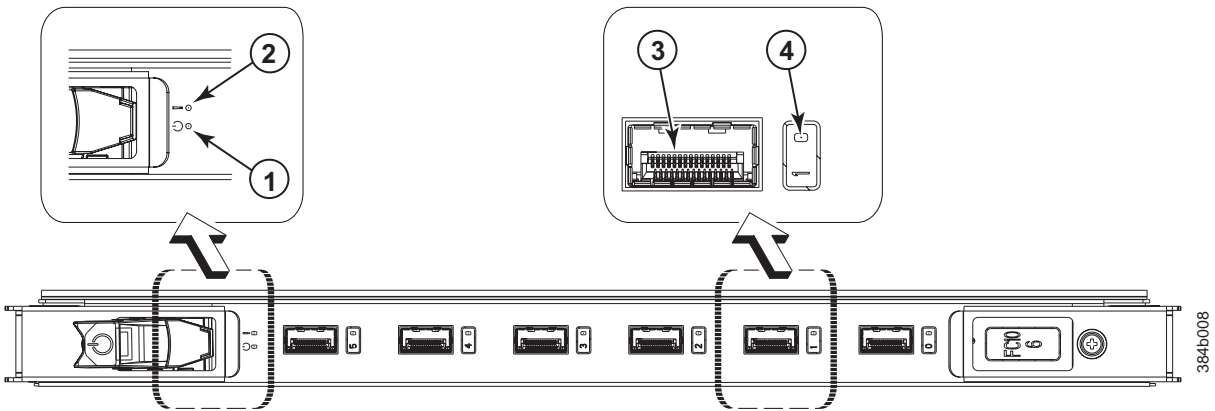

Figure 21. FC10-6 port blade
- Figure 21 on page 47 illustrates the FC10-6 port blade